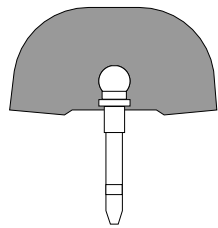

Fig. 4
3. Send the impression and brass transfer stud to the laboratory (Fig. 4).